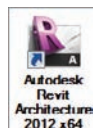
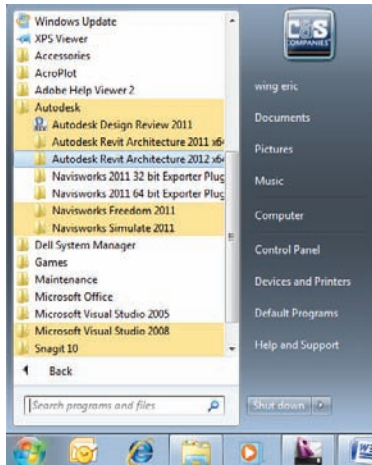

FIGURE 1.1 You can launch Revit Architecture from the desktop icon.
FIGURE 1.2 You can also launch Revit Architecture using the Windows Start menu (this shows the Windows 7 operating system).
1. To open Revit Architecture, click the icon on your desktop (see Figure 1.1), or choose Start > All Programs > Autodesk > Autodesk Revit Architecture 2012 > Autodesk Revit Architecture 2012 (see Figure 1.2).